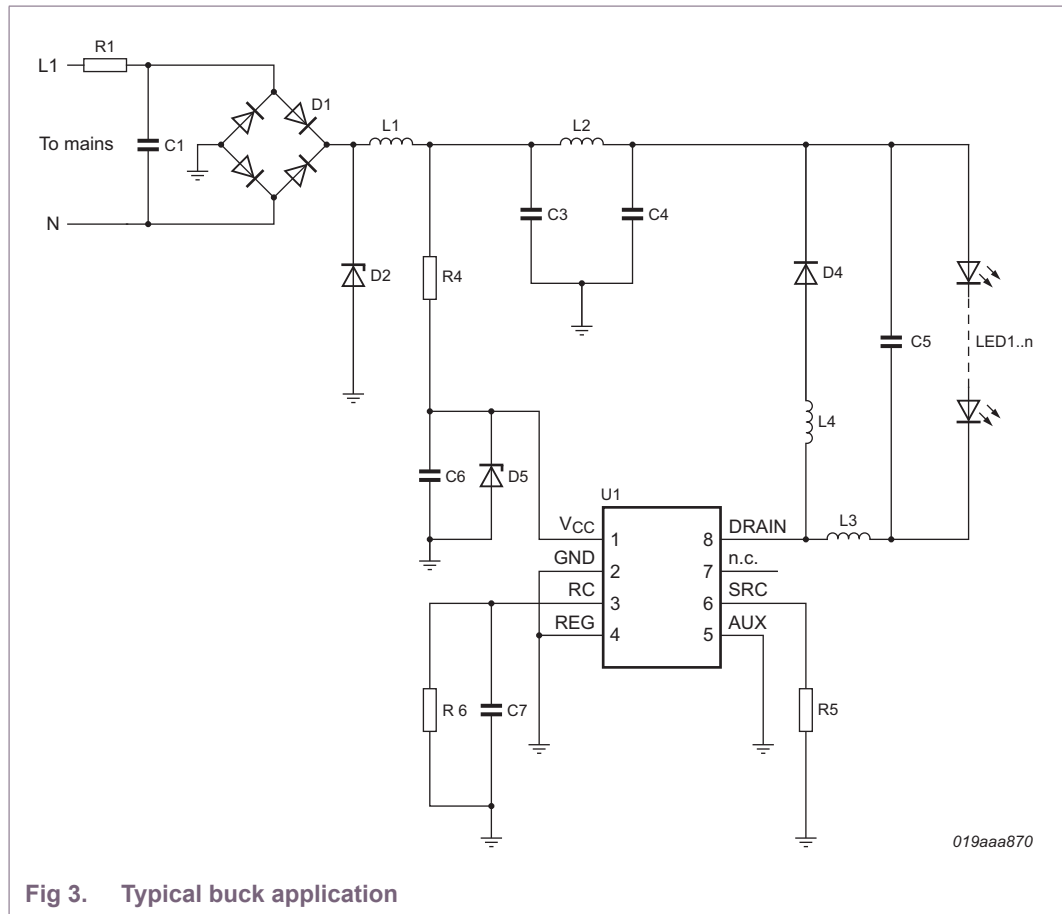

Fig 3. Typical buck application
A typical minimal buck application circuit driving one string of LEDs is shown in Figure 3. The starting parameters when designing such a circuit are the required LED current and the LED voltage. Assuming the converter operates in BCM, the relationship between output current and inductor peak current is straightforward:
**Remark:** The LED assembly in Figure 3 is connected above L3. This is to prevent the LEDs having a voltage variation equal to the drain voltage. Because the LED assembly is large with extended wires and a heatsink, it has substantial capacitive coupling to its surroundings. This capacitive coupling has a detrimental effect on efficiency and EMC.
The same inductor (L3 in Figure 3) is used for charging and discharging energy, resulting in a direct dependency between  $\delta_1$  and  $\delta_2$ , the LED forward voltage and the input voltage.
In the example schematic (see Figure 3), resistor R5 limits the peak current. When the voltage level over this resistor reaches a threshold, the cycle will stop and the switch will stop conducting. This threshold can be used to control peak current. Using peak current control, the LED current is half the peak current in BCM mode. The tolerance on this detection is proportional to the tolerance on the LED current. The value of R5 is calculated using the threshold level  $V_{ocp}$  in Equation 20.